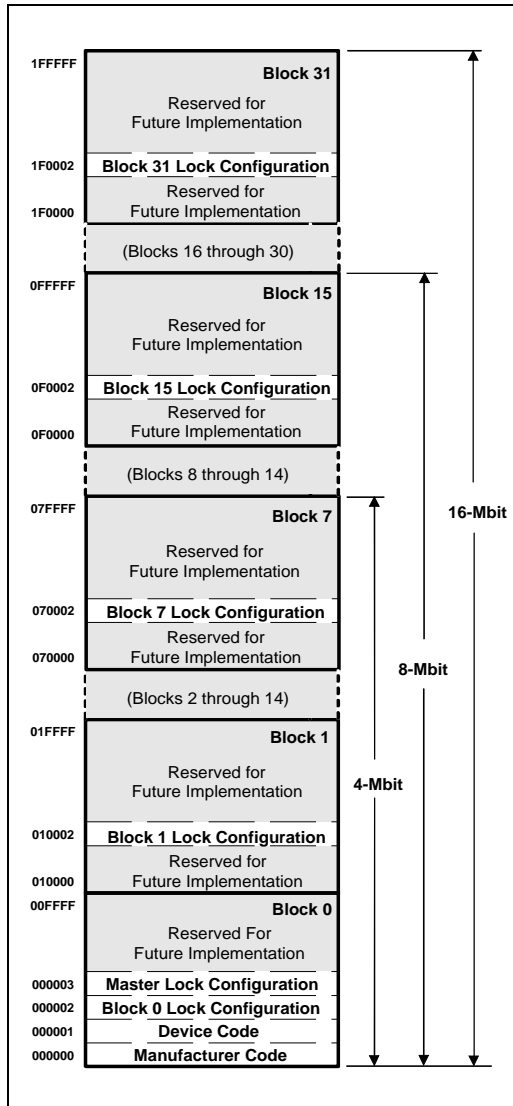

Figure 5. Device Identifier Code Memory Map
The read identifier codes operation outputs the manufacturer code, device code, block lock configuration codes for each block, and master lock configuration code (see Figure 5). Using the manufacturer and device codes, the system software can automatically match the device with its proper algorithms. The block lock and master lock configuration codes identify locked and unlocked blocks and master lock-bit setting.
IA = Identifier Code Address: see Figure 5.
The identifier code operation is initiated by writing the Read Identifier Codes command. Following the command write, read cycles from addresses shown in Figure 5 retrieve the manufacturer, device, block lock configuration and master lock configuration codes (see Table 4 for identifier code values). To terminate the operation, write another valid command. Like the Read Array command, the Read Identifier Codes command functions independently of the  $V_{PP}$  voltage and RP# can be  $V_{IH}$  or  $V_{HH}$ . Following the Read Identifier Codes command, the subsequent information can be read.
1. X selects the specific block lock configuration code to be read. See Figure 5 for the *Device Identifier Code Memory Map*.